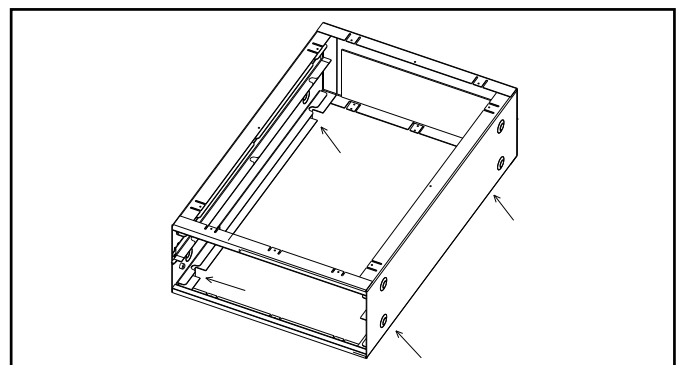

Figure 18 Mounting Tabs
2. Bend the 4 mounting tabs down on the two sides of the air cleaner cabinet. These can be used to attach the air cleaner cabinet to the furnace. See Figure 18.